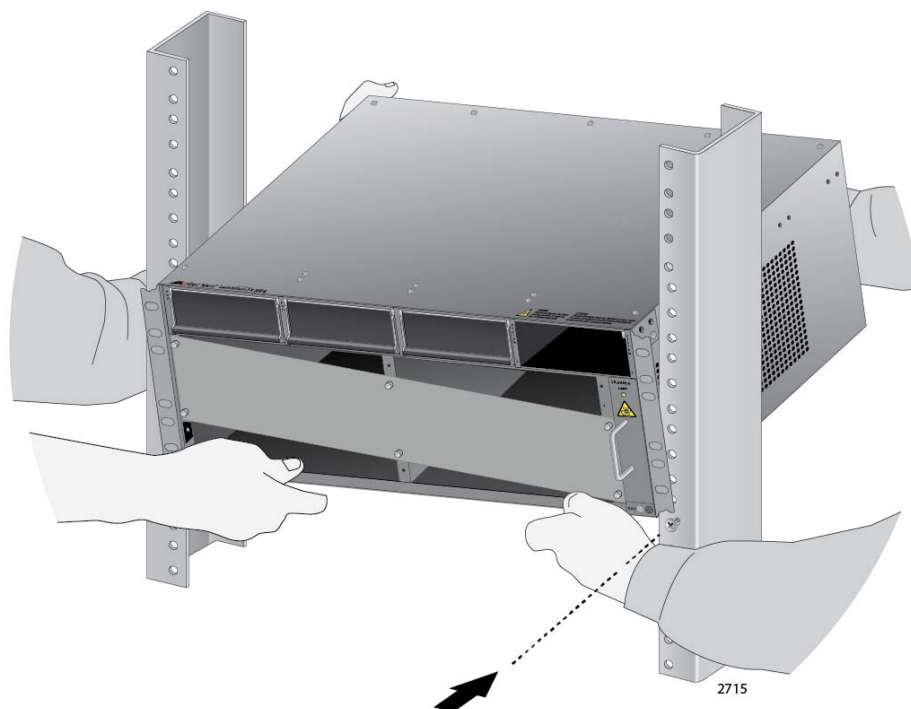

Figure 46. Lifting the AT-SBx3106 Chassis into the Equipment Rack
2. Do not mount any other equipment within 152.4 mm (6") above this space during installation. This additional vertical space is temporary and allows you enough room to lift and tilt the chassis into its position in the equipment rack without hitting other equipment, as shown in Figure 46 on page 108. You may use this additional space for other network equipment after the chassis is installed.
2. Lift the AT-SBx3106 Chassis into the equipment rack and set the bottom of the equipment rack brackets firmly on the two equipment rack screws installed in “Preparing the Equipment Rack” on page 101. Refer to Figure 46 on page 108.